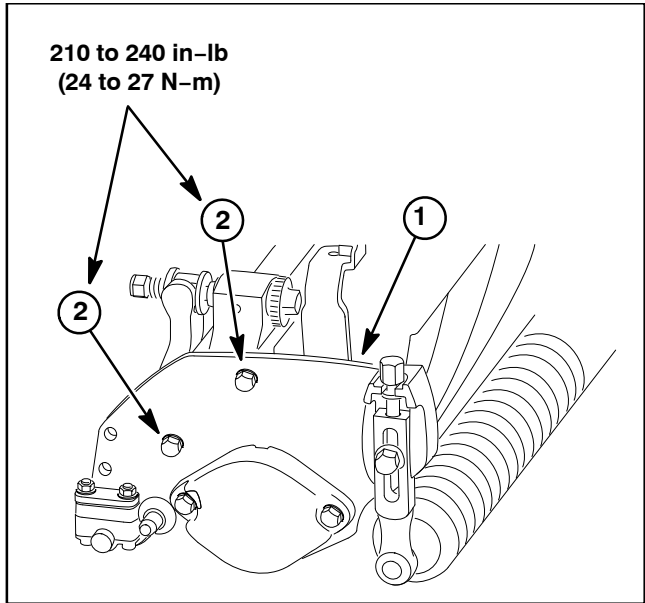

Figure 14
4. Loosen, but do not remove, the two (2) shoulder bolts that secure the side plate to the frame opposite the side that is not level (Fig. 14).